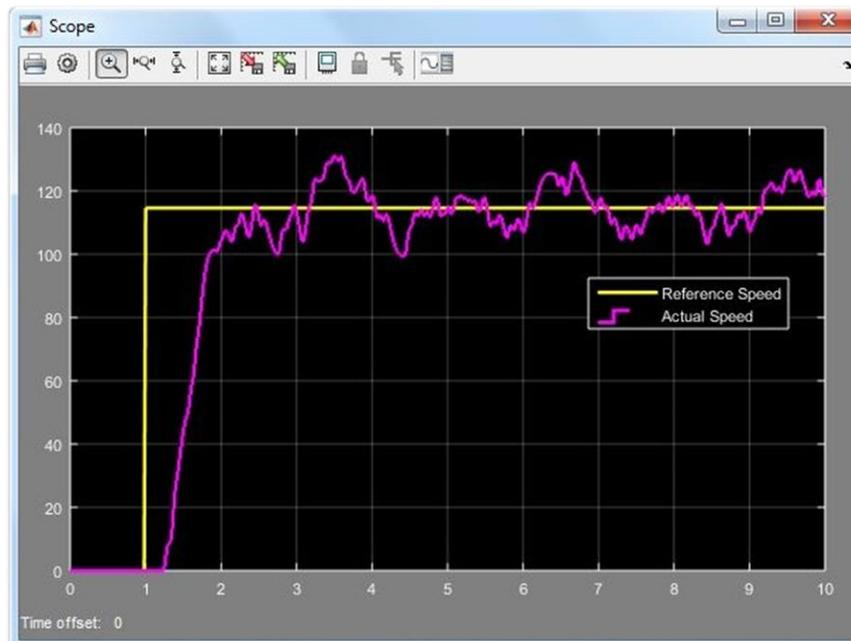

Figure 47 – Reference speed v/s measured speed with the tuned controller - Hardware
Observe that the actual EV3 robot hardware with the controller tracks the step input pretty well (Figure 47). The difference between the performance on the real hardware and our simulation, can be attributed to our simplistic DC motor simulation model. For e.g. we have not modeled the friction in the motor. The next logical step would be to add this detail and use our simulation model to get a better controller.
Our desired response behavior is depicted by the white back-ground in Figure 47. Our objective is to tune our controller to ensure that it reaches our desired set-point faster by staying in the white region. If the response of the system falls outside the white region it may over-shoot too much or track the desired reference point too slowly. The darkened area in the plot depict “forbidden” zones. Our desired
2. Examine that with the current PID values have clearly failed to meet our performance objectives as shown in Figure 47. The actual output passes through the darkened region and is out of bounds.